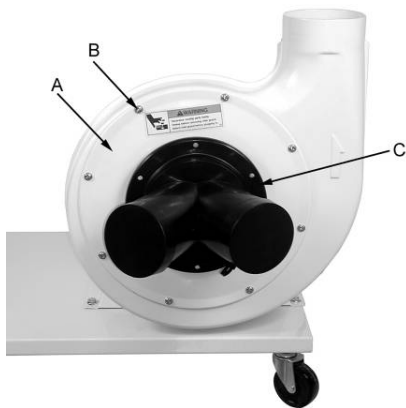

Fig 3
Attach inlet guard (A, Fig 3) to fan housing using 8 pan head screws (B).